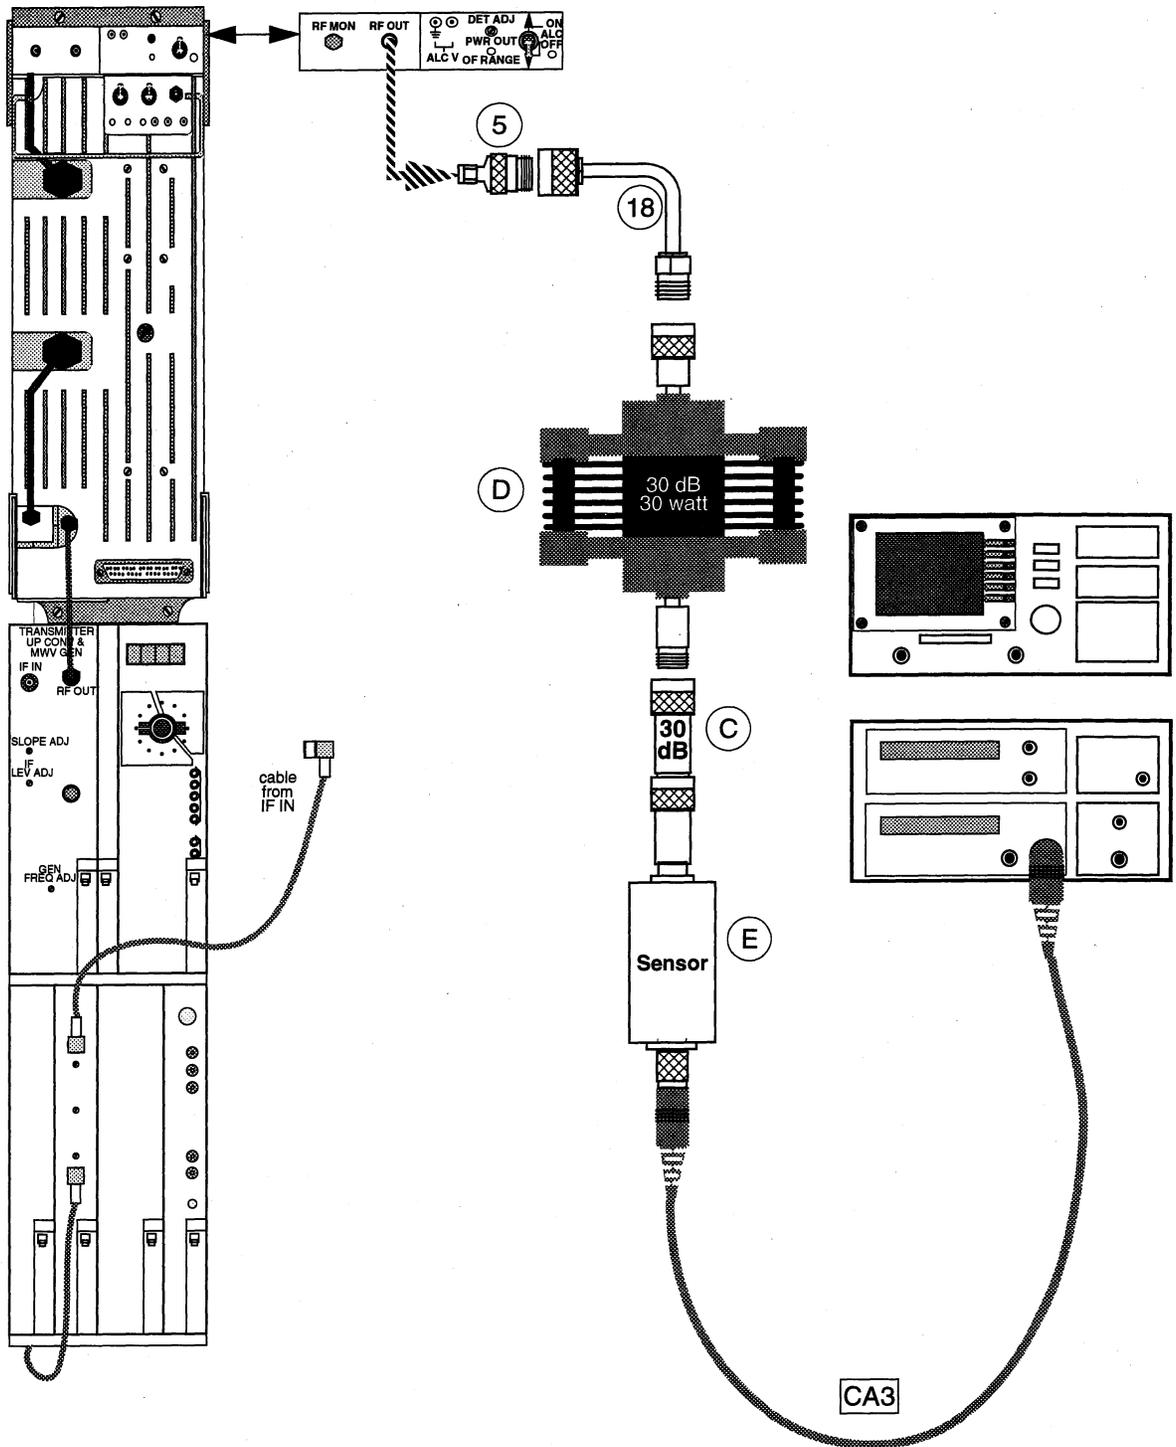

Figure 30. RF OUT Power Measurement—TWT
- 5 Connect the test equipment as shown in Figure 30.